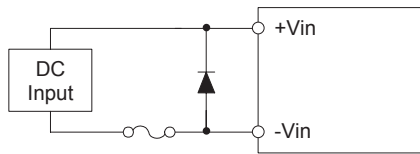

Fig.2.4 Reverse input voltage protection
(4) Reverse input voltage protection
■ Avoid the reverse polarity input voltage. It will damage the unit. It is possible to protect the unit from the reverse input voltage by installing an external diode as shown in Fig.2.4.